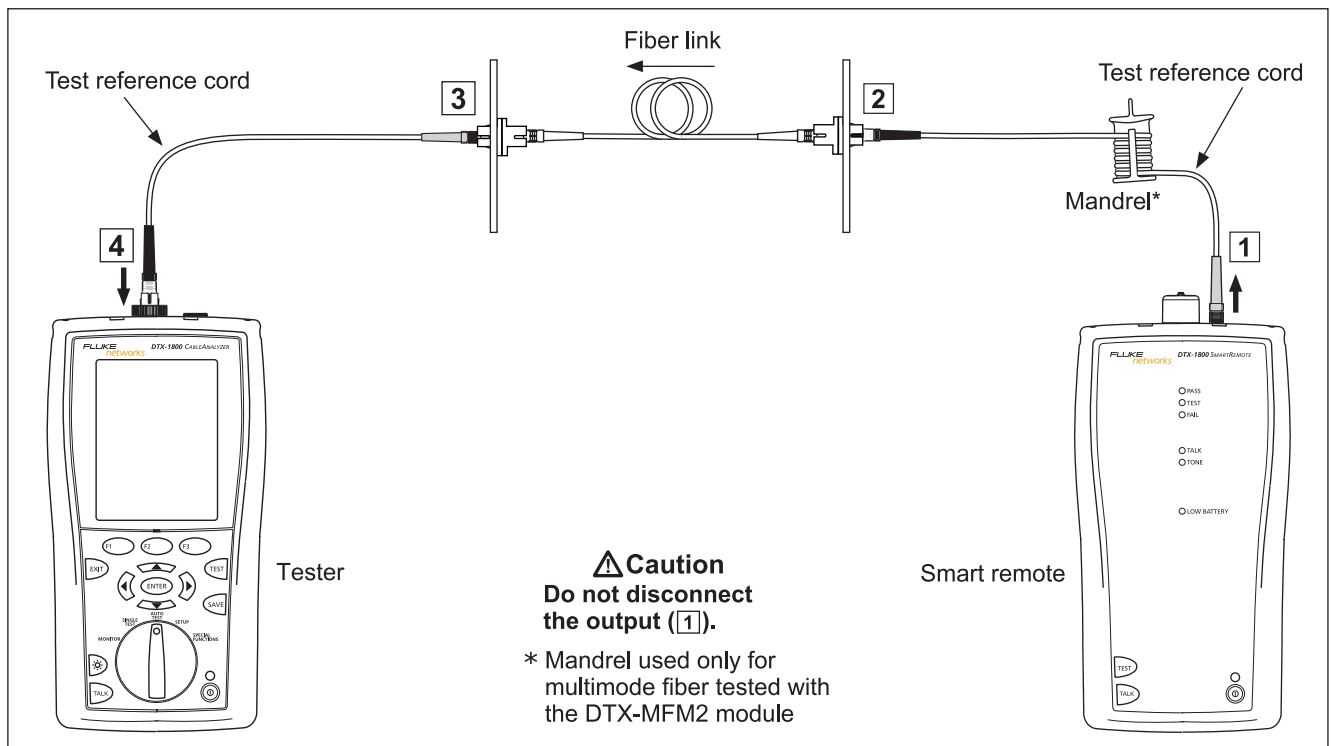

Figure 18. Testing a Fiber Link in Far End Source Mode (1 Jumper Method)
- 12 Clean and inspect the connectors on the cabling to be tested; then connect the tester and source to the cabling. The tester shows connections for the test method you selected. Figure 18 shows connections for the 1 Jumper method.